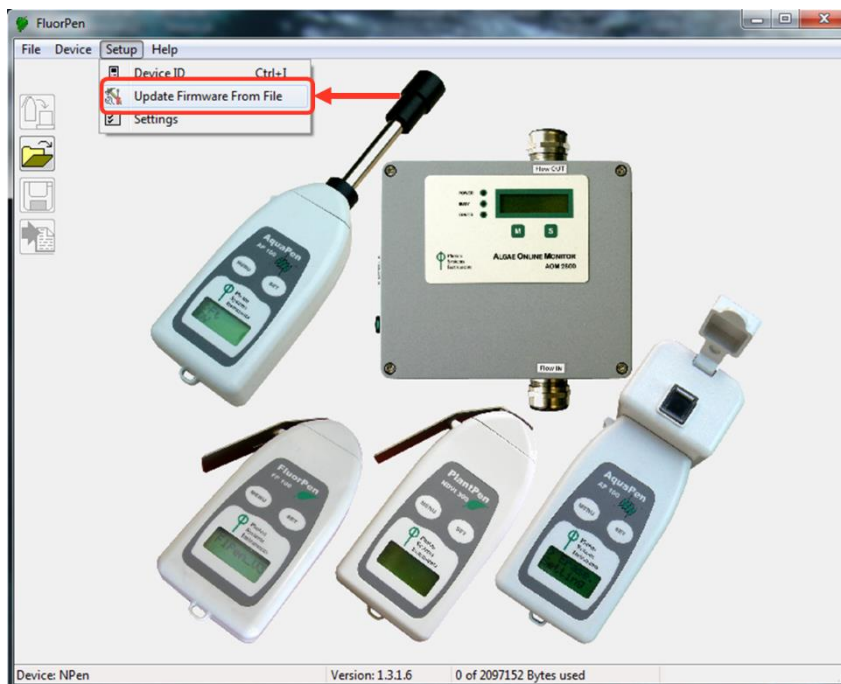

Fig. 19 Firmware update.
- Select: **Setup > Update Firmware From File** (Fig. 19).